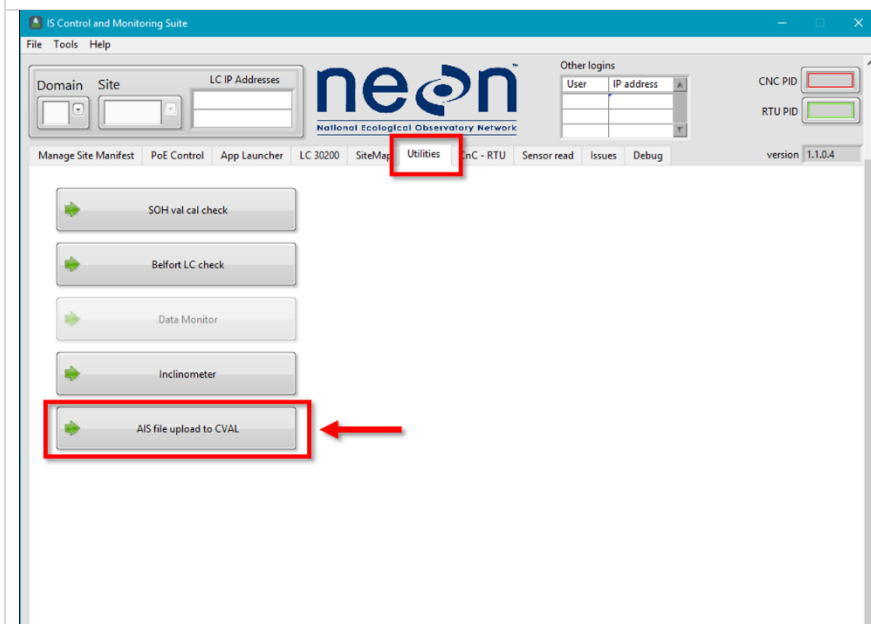

Figure 163. Navigate to the Utilities Tab and Select "AIS file upload to CVAL"
**STEP 2** | Navigate to the **Utilities** tab and select "AIS file upload to CVAL" (Figure 163).